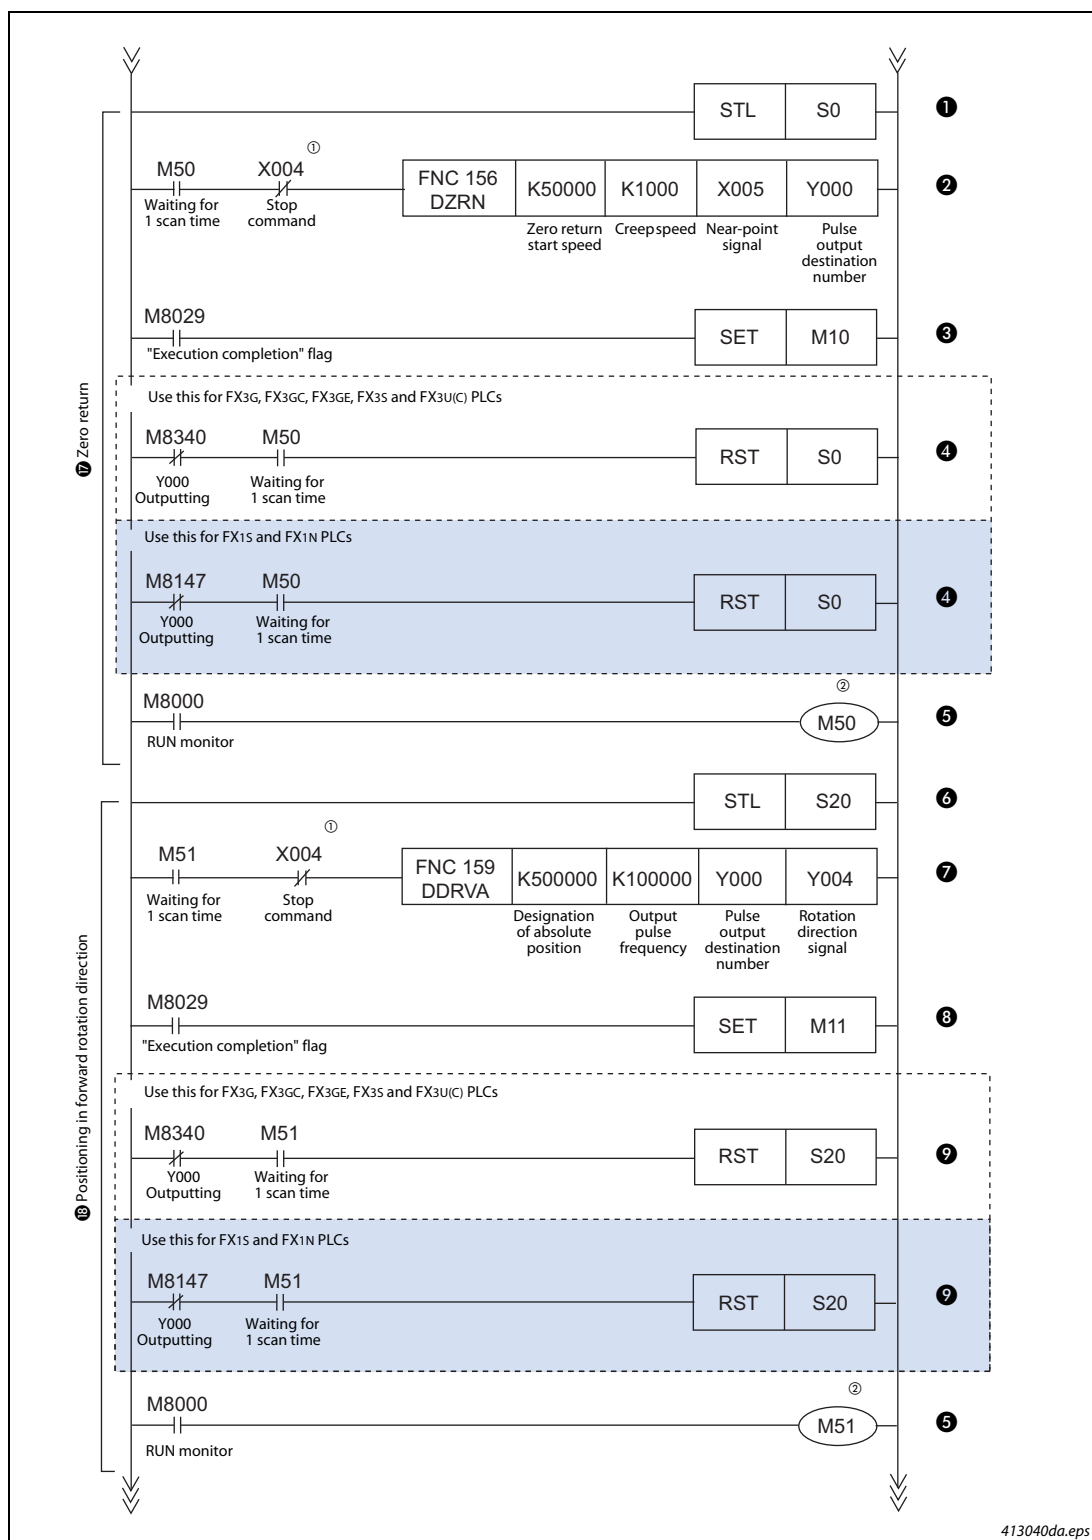

Fig. 4-5: Program example (3)
- ① See marker 17 in program fig. 4-5 (3).
- ② See marker 18 in program fig. 4-5 (3).
Tab. 4-8: Description of the program example in fig. 4-5